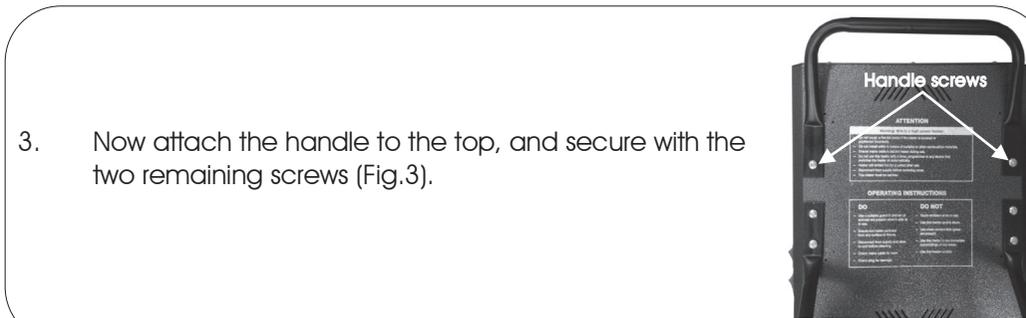

Fig. 3
- Now attach the handle to the top, and secure with the two remaining screws (Fig.3).